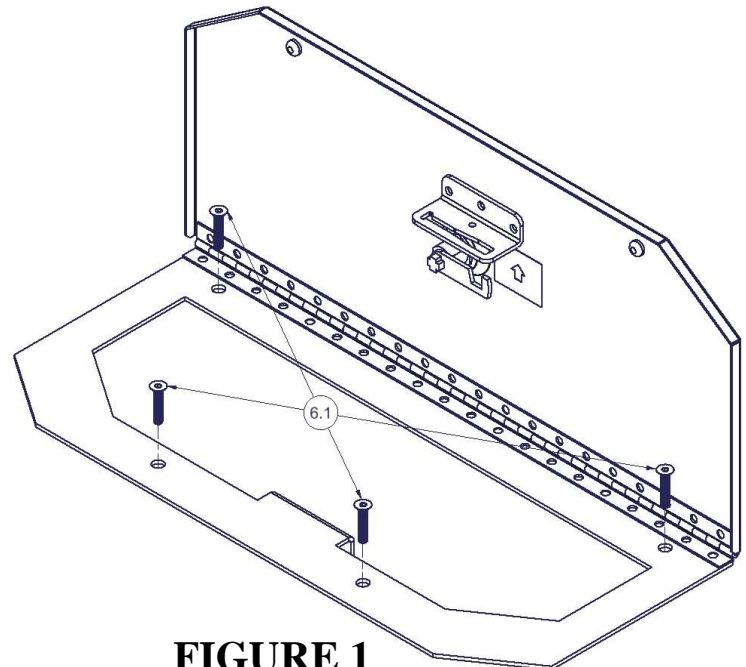

FIGURE 1
3. Release the plastic covers over the (2) cargo loops using a flat blade screwdriver. A slight upward “pry” at the rear of the cover will release the internal clip holding it down.
4. Remove the (2) OEM mount bolts for the cargo loops and remove the cargo loops. Separate the mount bolts from the cargo loops and reinstall the bolts into the mounting holes to prevent water from entering the vehicle.
5. Remove the (4) mounting bolts from the OEM lid and set the lid aside.
6. Remove the (2) OEM hex-head bolts that secure the plastic housing/cavity in place and replace them with (2) #6.1 Flathead Screws.
8. Insert (4) #6.1 Flathead Screws from the shipping package, through the holes in the #357 Mount Plate and into the factory mounting holes. (SEE FIGURE 1)